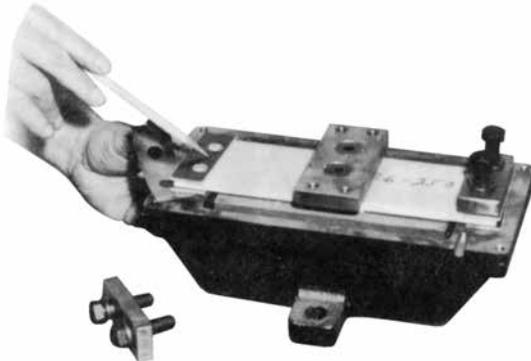

FIGURE 6
2. Without removing the hammer from the base cavity, install a factory replacement spring, USING THE NEW SPACERS FURNISHED WITH THE SPRING and replacing the steel spacer shims in their original positions (see Figure 6). Be sure that the countersunk flat head bolts holding the center clamp block to the spring are very tight and that, after tightening, they are securely staked with a center punch.